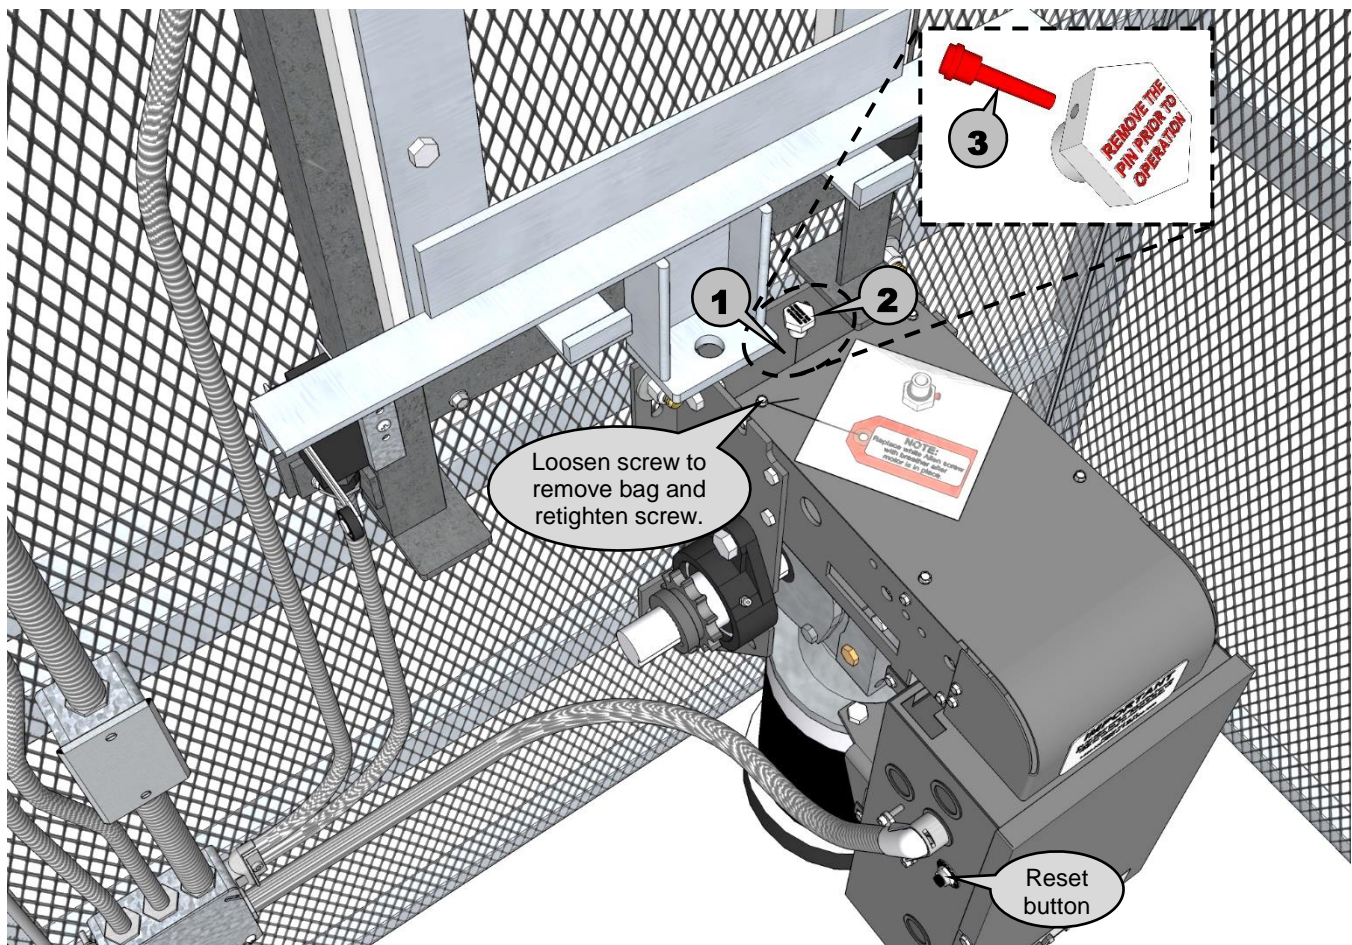

Figure 15
Note: If the breather plug is not installed it is shipped in a bag attached to a screw on the brake cover. (see Figure 15)
- 1** Remove the factory installed plug using either a 6mm Allen wrench or a 9/16" (14mm) socket. (see Figure 15)
- 2** Install breather plug hand tight or until the rubber "O" ring is seated snugly against the gear box. **Do not overtighten!** (see Figure 15)